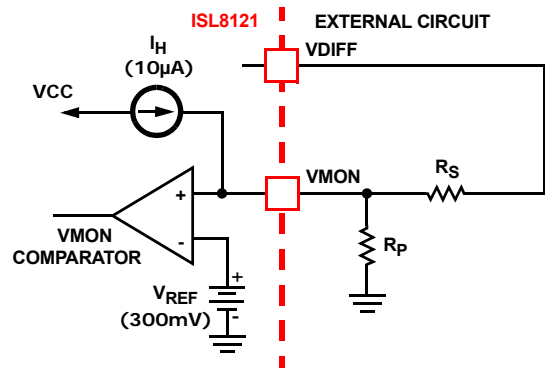

FIGURE 11. SETTING THE MONITORING THRESHOLD AND HYSTERESIS
While in external reference (ER) mode, the threshold sensitive VMON pin can be used to control when the ISL8121 starts to monitor the output for PGD and OVP protection purposes. As shown in Figure 11, connect the VMON pin to the voltage to be monitored via a resistor divider. An internal current source helps set a user-adjustable monitor threshold hysteresis. Choose resistor values according to desired hysteresis voltage, V_H , and desired rising threshold, V_T .